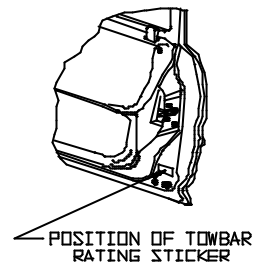

FIG 1: Shows the clips securing the bumper to car.
- f) Remove the panels on the rear bumper to access the bolts securing the bumper to the body on both driver & passenger sides as shown in figure 1.